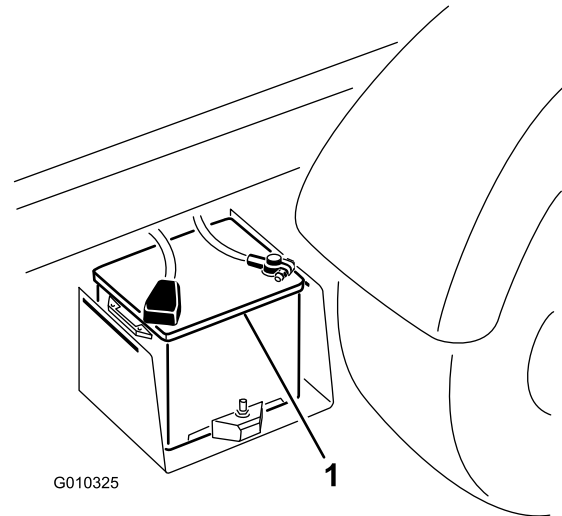

Figure 48
2. Connect a jumper cable between the positive posts of the 2 batteries (Figure 48).